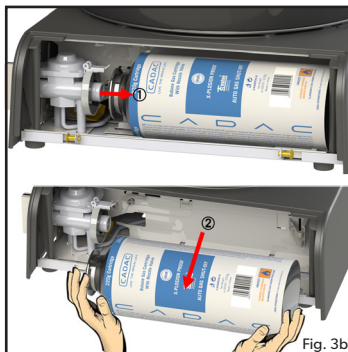

Fig. 3b
- Open the cartridge cover and remove the cartridge in a horizontal position (as shown in Fig. 3b).